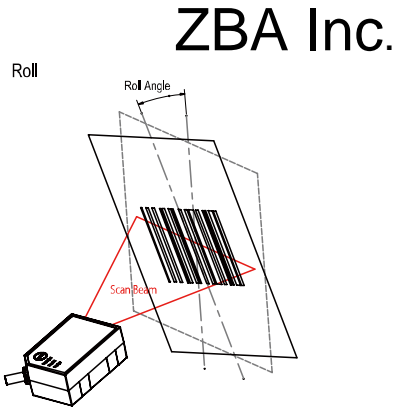

Figure 2: Skew, Pitch and Roll Angle Illustration
- (b) When placing the barcode label, one must be careful not to over tilt, skew and/or pitch the barcode (Refer to figure 2)